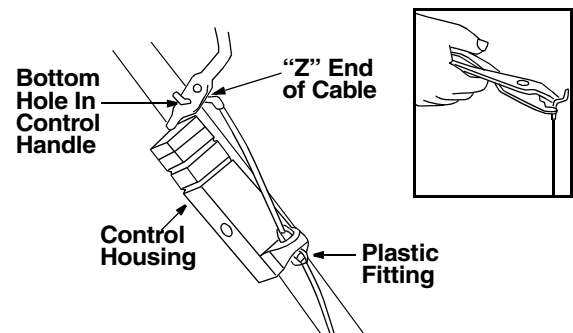

Figure 4
- Route the control cable over the lower handle. Insert the end of the cable into the hole in the control housing as shown in Figure 4. Push the plastic fitting until it locks into the control housing.